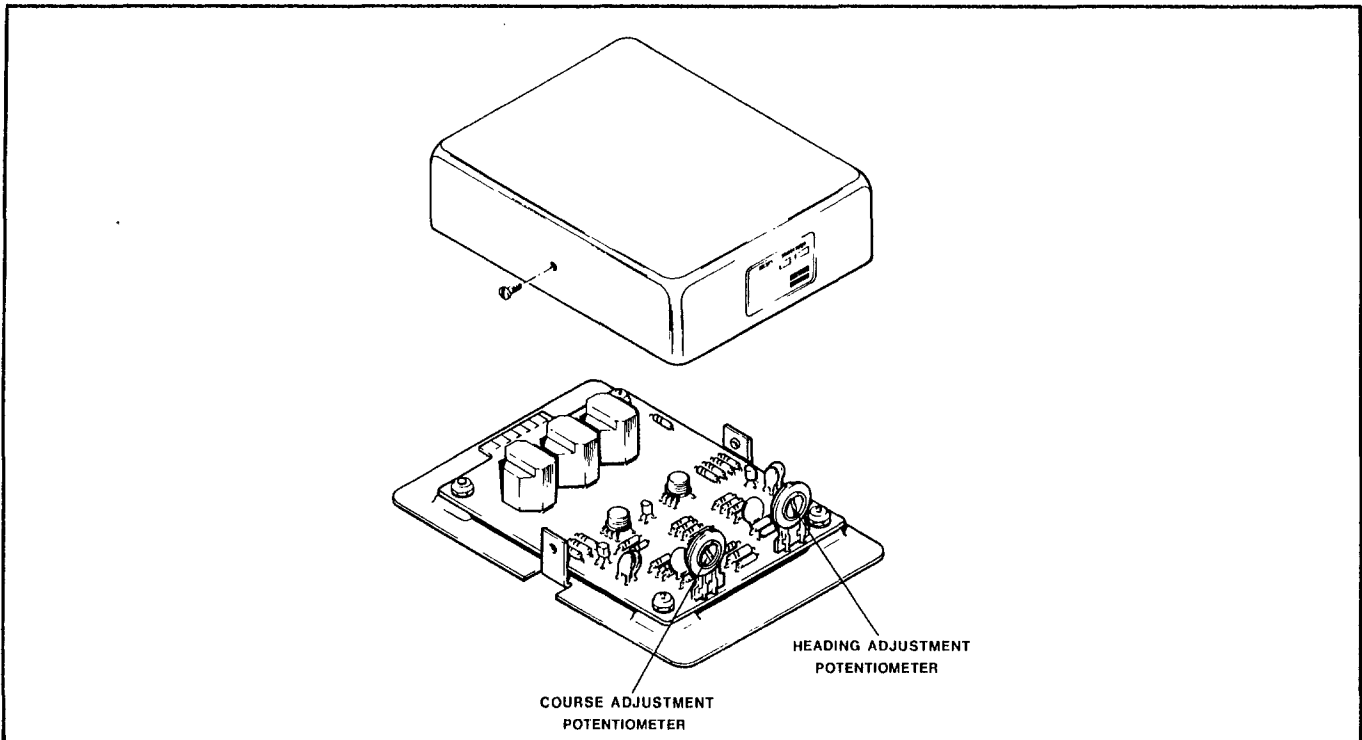

Figure 5-12. KA-52 Autopilot Adapter
- a. **KA-52 AUTOPILOT ADAPTER ALIGNMENT PROCEDURE.** (Refer to Figure 5-12.)
5. Remove cover from KA-52 autopilot adapter (refer to Figure 5-12) to gain access to the adjustment potentiometers.